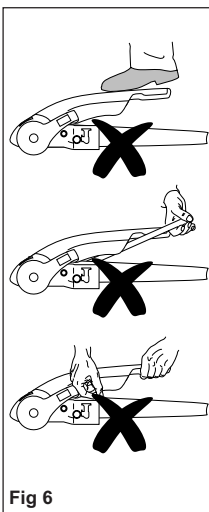

Fig 6
- 2) Press stabiliser lever down by hand force only DO NOT use your foot or an extension bar, this will damage the components (Fig. 6).
- 3) When opening or closing the stabiliser lever, please ensure your hand does not touch the coupling handle - you may accidentally trap your fingers! (Fig. 6).